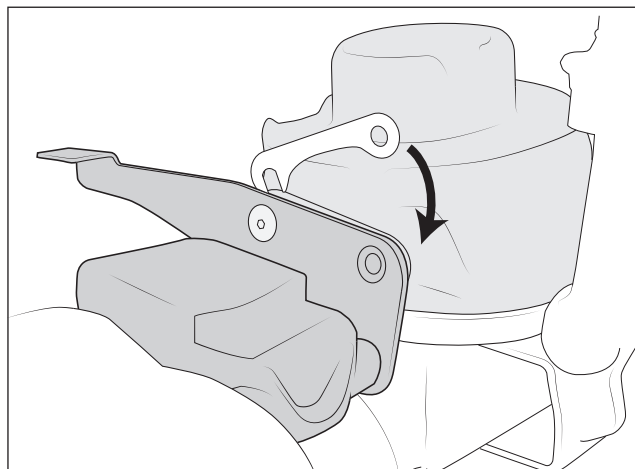

Figure 28
- g. There may be a gap between the bumps top and coil spring mount. Use the supplied shims to shim as shown (fig. 28).